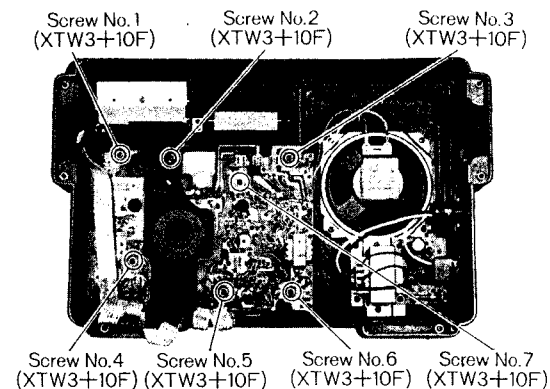

Fig. 11
2. Remove the six (6) knobs for the RADIO, LIGHT, BAND WIDTH, VOLUME, BASS and TREBLE.
3. Remove the five (5) screws (nos. 2, 3, 5, 6 & 7) for the PC board, as shown in fig. 11.